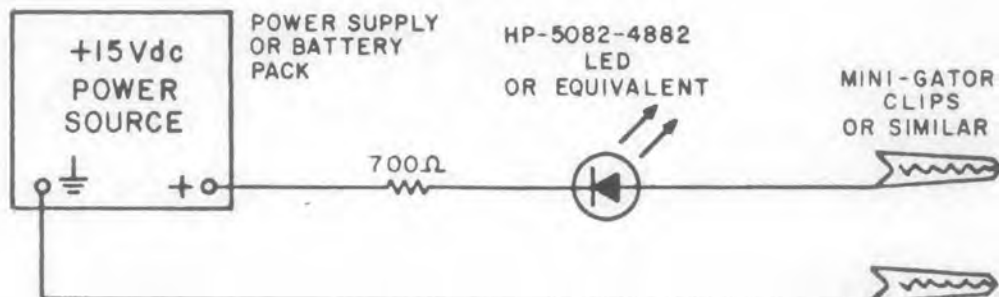

Figure 4-9. Remote Range Control Test Lamp
- (1) Connect the digital voltmeter to the analog tune input A12 pin 18 and adjust the front panel tuning knob for a reading of 0.00 V dc.
- (2) Connect the LED test light (see Figure 4-9) between A12 pin 4 and ground.
- (3) Using the main tuning knob, tune the unit to 118 MHz and adjust A12R4 until the LED just turns on.
- (4) Move the light to pins 2 and 3 and it should be off on each.
- (5) Tune the unit to 124 MHz and connect the light to pin 3. It should light.
- (6) Move the light to pins 2 and 4 and it should not light.
- (7) Tune the unit to 510 MHz and connect the lamp to pin 2. Adjust A12R7 until the LED just turns on.
- (8) Move the lamp to pins 3 and 4 and it should not light.
- (9) Tune the unit to 118 MHz and using the test light verify it lights on pin 2 and is off on pins 3 and 4.
- (10) Tune the unit to 124 MHz. The light should light on pin 3 and be off on pins 2 and 4.
- (11) Tune to 510 MHz. The light should light on pin 4 and be off on pins 2 and 3.
- (12) Make slight adjustments of A12R4 at 118 MHz and A12R7 at 510 MHz as necessary.